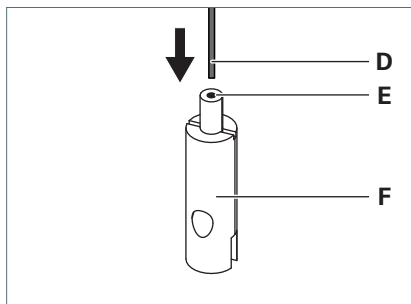

Fig. 21: Mounting the wire rope holder.
- Guide the wire rope **D** through the guide bushing **E** of the wire rope holder **F**, see Fig. 21.